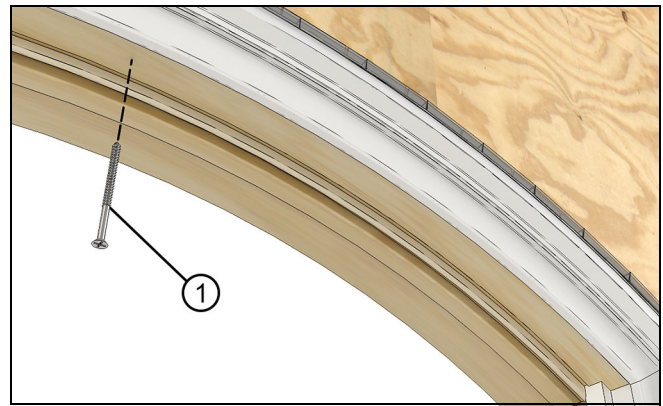

Figure 36
9. On Round Top CW units: Apply #8 X 3" screws through the head jamb. See Figure 36.